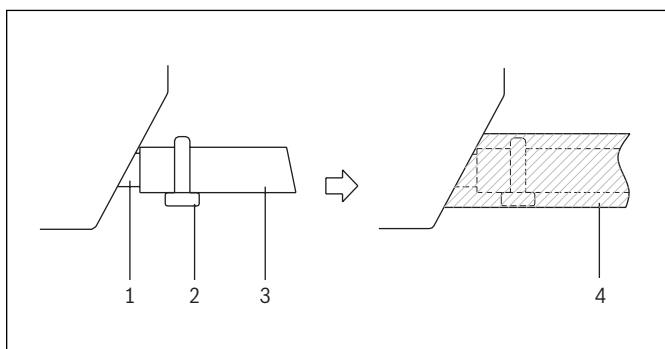

Figure 16
- To prevent air bubbles, install the drain hose level or slightly tilted up (<3 in/75 mm). The incline of drain hose should be 3 in/75 mm or less to reduce the force on the drain socket. See figure 16 for detail location.